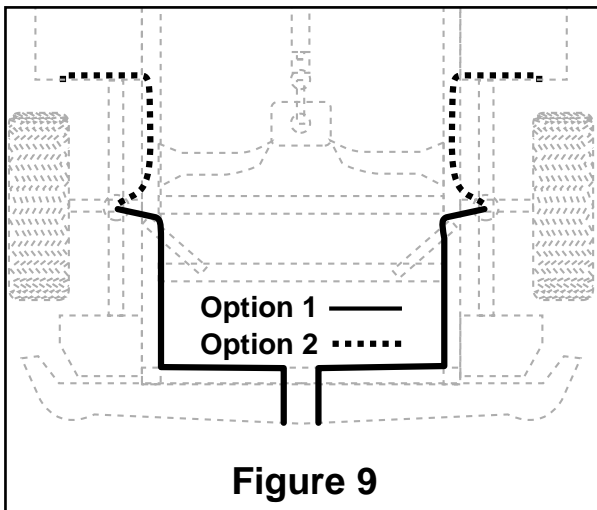

Figure 9
- A. Select a location for the inflation valves in the rocker panel flange, or rear bumper, assuring that each valve will be protected and accessible with an air hose (Figure 9).